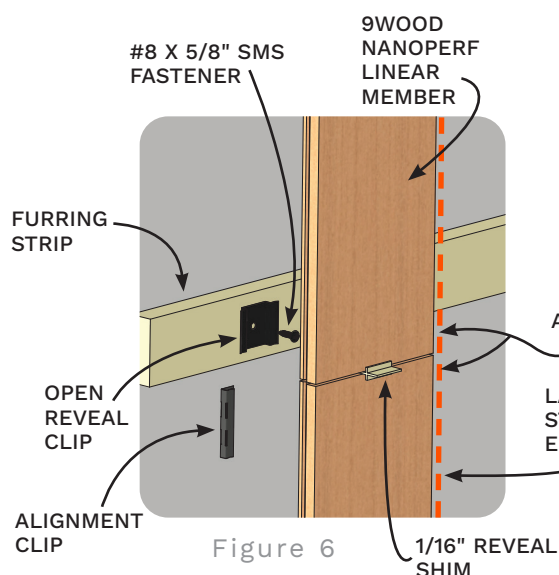
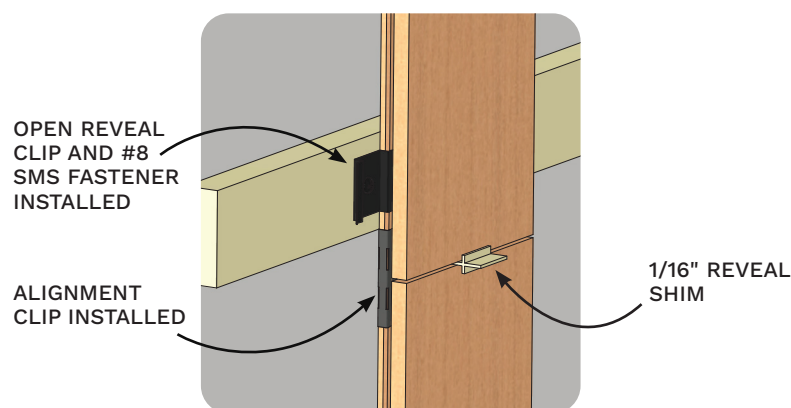

Figure 6
Figure 7
- A straight edge or a laser is recommended to maintain a consistent edge to start the run (see Figure 6)
- With the first member held in place, install an Open Reveal clip at the furring so it holds the grooved edge of the member (see Figure 6 and Figure 7).
- Attach the clip to the furring strip with a #8 x 5/8" pan head or HWH SMS fastener (see Figure 6 and Figure 7).
- Install an Alignment clip between two members at the grooved edge (see Figure 6 and Figure 7).
- Use a 1/16" jig between two members to set the spacing (see Figure 6)
- Press the Alignment clip firmly against the wood members until it sits flush against the wood member. Push the two members tight against the 1/16" jig (see Figure 7).